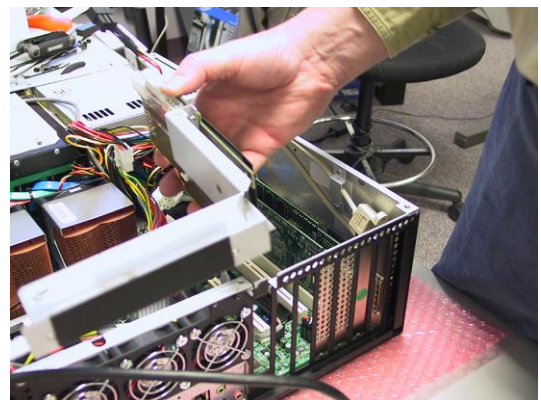

**Figure 5-60**
- 10) Disconnect the audio input cable from the power distribution board as illustrated in Figures 5-60. This connector is black and has a latch. Note that the audio amplifier is also on the power distribution board.